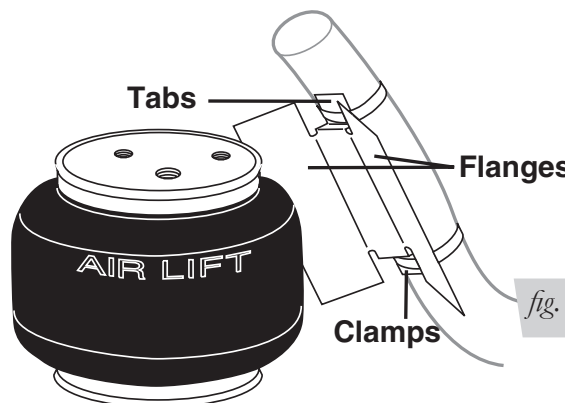

fig. 5
5. Installation of this kit requires an exhaust heat shield (Figure 5). The shield is attached with the stainless steel clamps to the exhaust pipe, with the flanges being bent inward. Shield may be trimmed or bent to attain component clearance. Bend tabs to provide 1/2" dead air space between exhaust pipes and heat shield and maximum clearance with air springs.